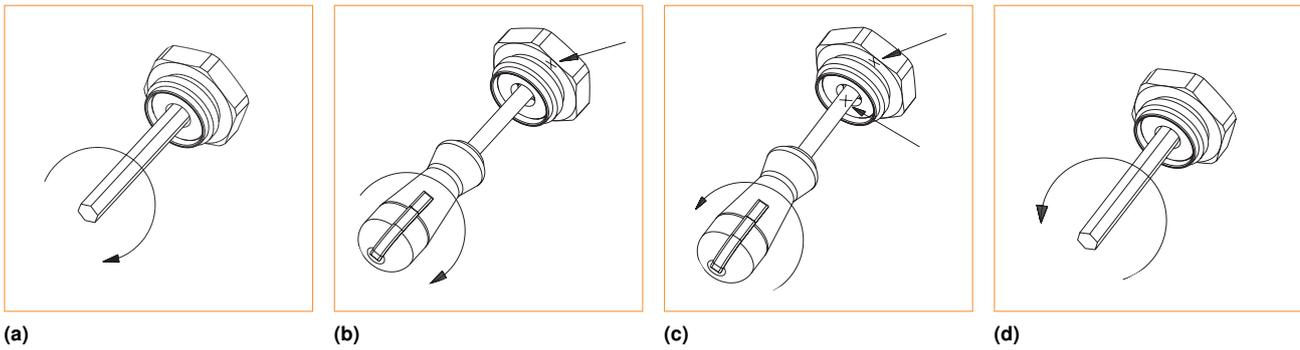

Fig. 1: Lockshield adjustment.
2. Use a 5 mm allen key to close the large adjustment screw (Fig.1 a);